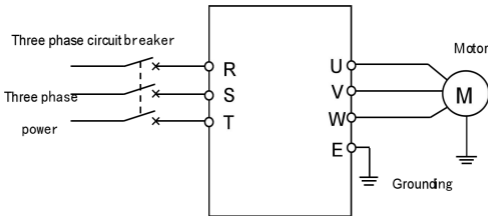

Figure 4-2 Simple operation wiring diagram
- ① Wiring according to Figure 4-2;
- ② After confirming that the wiring is correct, close the power switch, connect the power supply, the frequency converter first displays "P-oN", and later display "0";
- ③ Confirm that the frequency setting channel is the digital setting mode